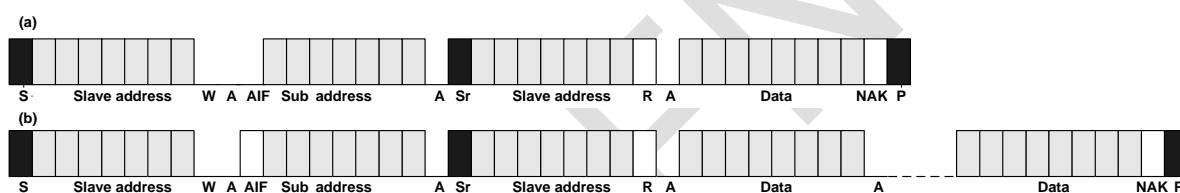
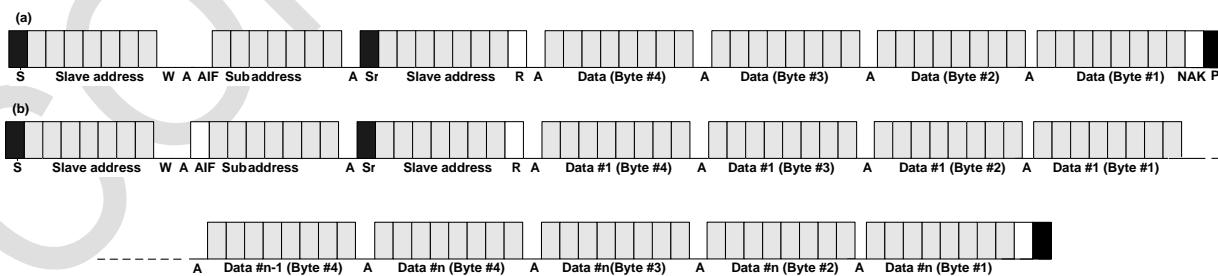

Figure 8. Single Byte Read Mode Sequence
Figure 9. Quad Byte Read Mode Sequence
**Figure 8-(a)** represents single byte reading operation from the NTP8212G. To read data from the NTP8212G, generate start condition to start transfer. After then, send “slave address” with write mode flag and send the register address(sub address). By regenerating start condition (Sr) again and transferring “slave address” with read mode flag, reading operation begins. The NTP8212G will generate data on SDA signal synchronizing with serial clocks on the SCL. Because the SDA signal generated from the NTP8212G, the master device must generate ACK on 9th slot to confirm that the master received read 1 byte successfully. However, if this is just one byte reading operation, NAK (not acknowledged) signal must be generated to end transfer.
When AIF set to high on sub address like **Figure 8-(b)**, data will be read continuously with register addresses which are increased from initial “sub address” for every byte. In continue reading operation, the master must generate ACK signal on every 9th bit of the packet to confirm that master has received 1 byte successfully. Otherwise, reading operation will be terminated.
**Figure 9** represents quad byte reading operation. The difference between quad byte reading operation and single byte reading operation is only the size of receiving data. So, after sending “Sub address”, 4 sequential bytes must be received from the MSB to the LSB sequence.
The type presented on **Figure 9-(b)** is quad byte read operation under address auto increment mode, AIF function. Please compare the data receive size between **Figure 8** and **Figure 9**.